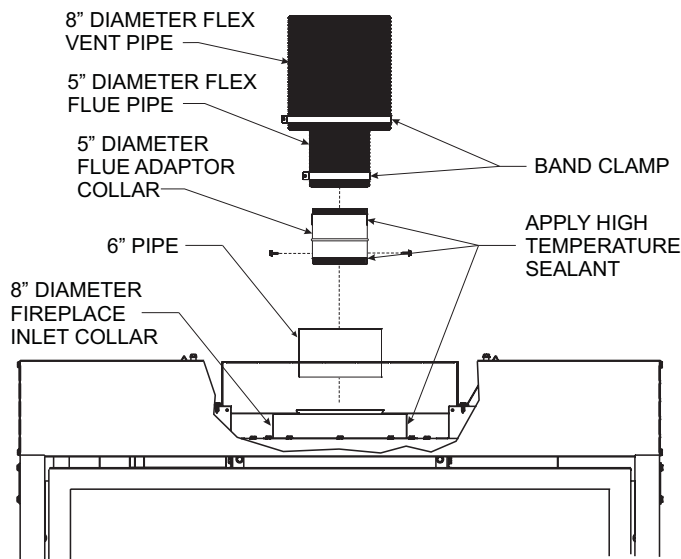

Figure 56
10. Apply sealant to the outside of the flue pipe adapter and connect to the flex flue pipe. Then insert the adapter into the fireplace flue. Secure flue adapter to the fireplace flue with a minimum of two screws provided. **See Figure 56.**